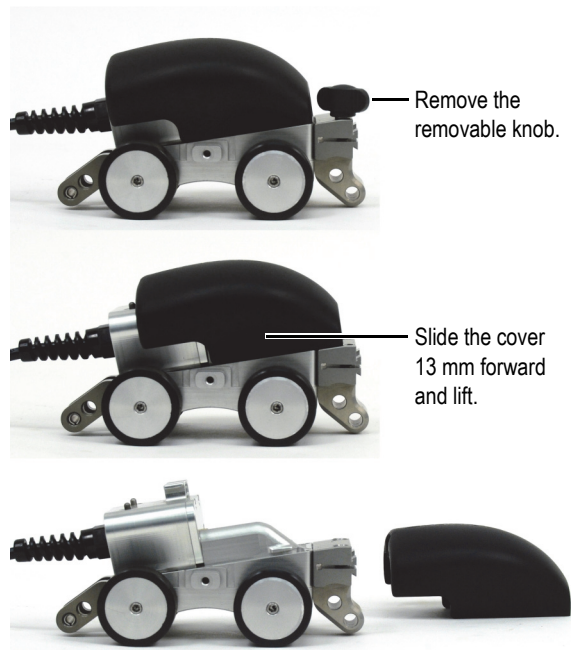

Figure 2-3 Removing the ergonomic cover
1. Pull out the removable knob if required (see Figure 2-3 on page 36).